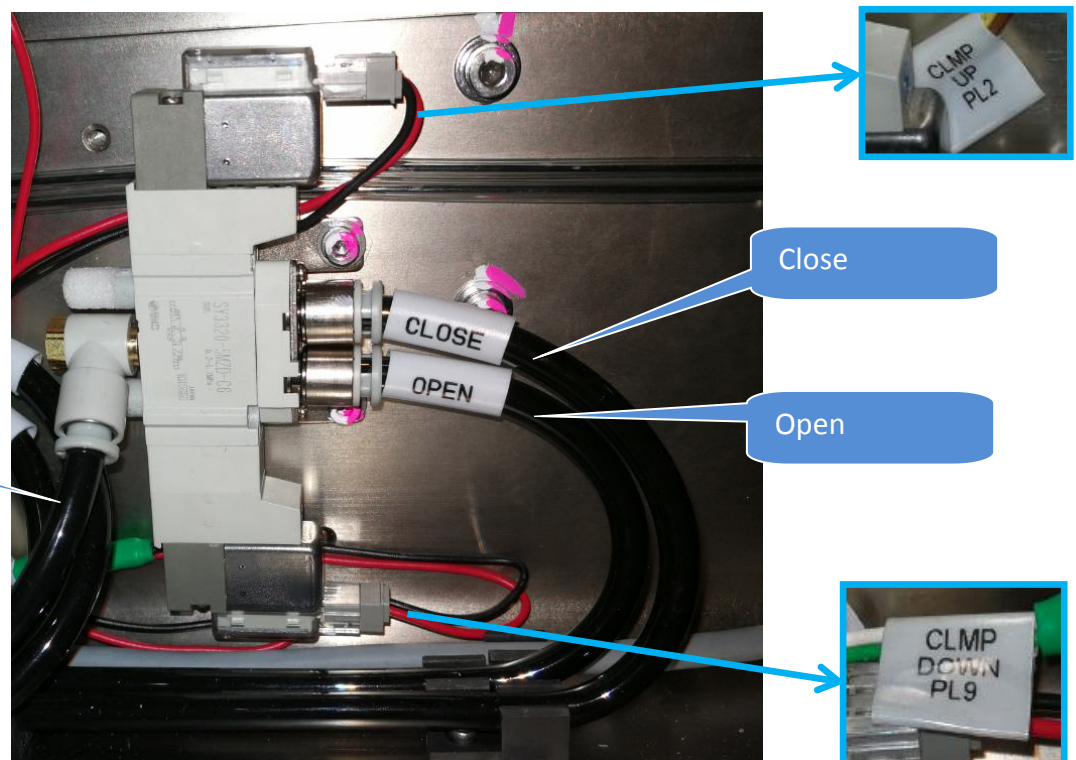

Figure 9 Fix Rail Clamper Pneumatic Valve Assembly
- Connect Solenoid Valve Cable by refer to Label “CLMP UP PL2” as below Figure 9
- Connect Solenoid Valve cable by refer to Label “CLMP DOWN PL 9” as below Figure 9
- Connect 2 x Tubing respectively by refer to “CLOSE” & “OPEN” as below Figure 9
- Connect Main tubing as below Figure 9